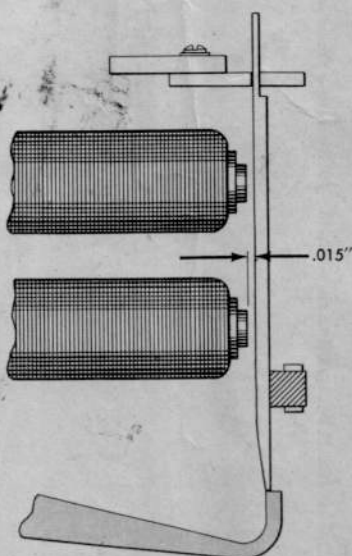

Figure 12. Armature-to-Core Clearance (De-energized)
1. The clearance between the lower magnet core and the armature should be .015", when the armature is latched on its drive rod lever. When an adjacent armature is removed, this clearance may be easily checked. Adjust by forming the armature (Figure 12).